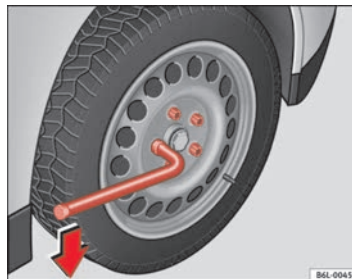

Fig. 132 Changing the wheel: loosen the wheel bolts
- Grasp the box spanner by the end turn it about one full turn to the **left** ⇒ fig. 132.